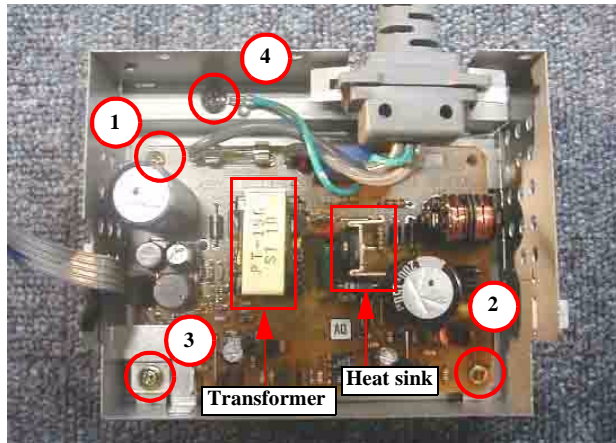

Figure 4-26. Tightening procedure for the PSB/PSE board
- Make sure to place three wires of the AC cable away from the Transformer and the Heart sink on the Power supply board. (Refer to Figure 4-26)
- Make sure to set the Power supply radiator in the correct position. (Refer to Figure 4-26)